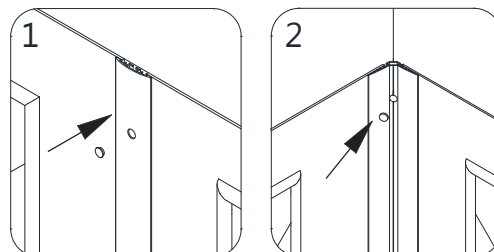

Fig 23
23. Use the **Decorative Covers (#08)** to cover the screw holes in the **Corner Covers (#04)** and the **Center Cover (#05)**. (**Fig 23**)